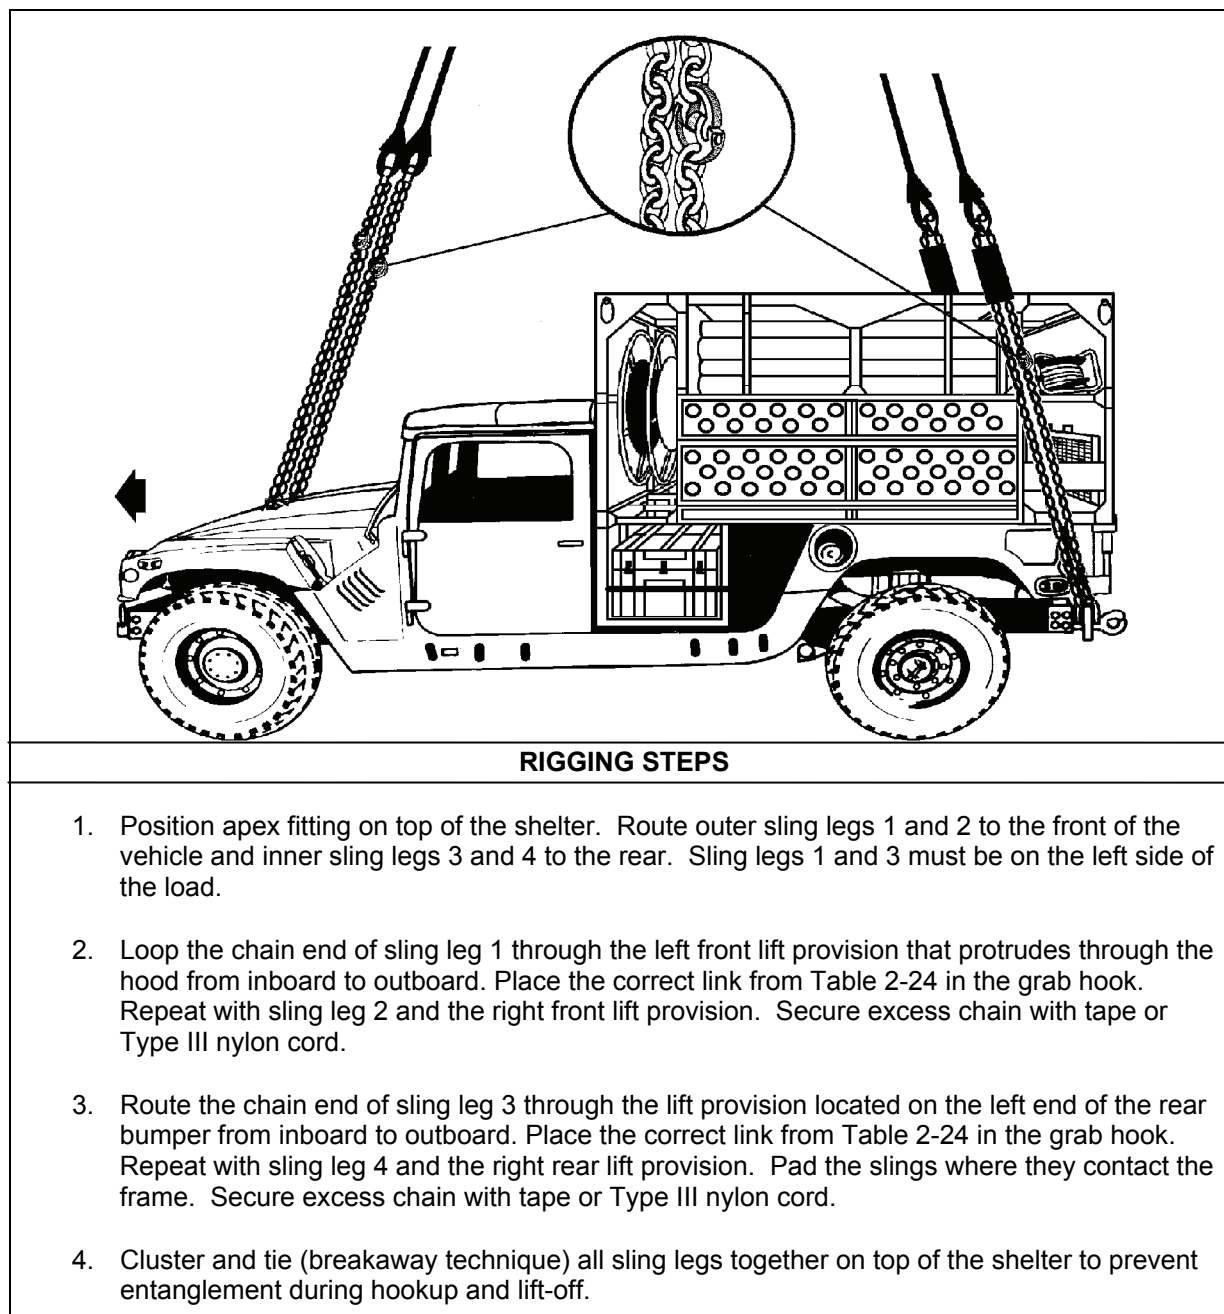

Figure 2-23. M1097 with 2 or 3 Mast AETC Configuration
- **Rigging.** Rig the load according to the steps in Figure 2-23.